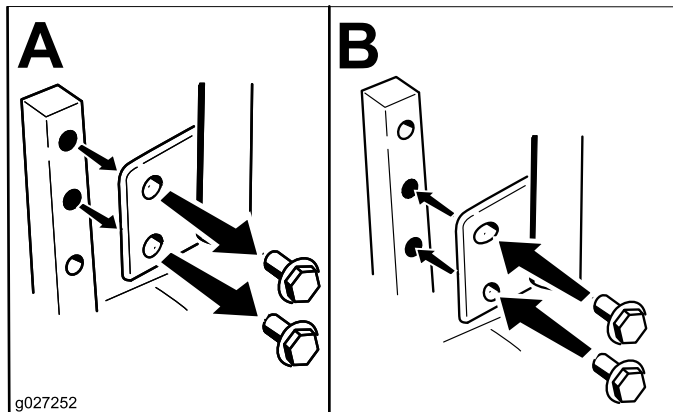

Figure 21
You can adjust the motion-control levers higher or lower for maximum comfort (Figure 21).
2. Loosen the lower bolt just enough to pivot the control lever forward or rearward (Figure 21).